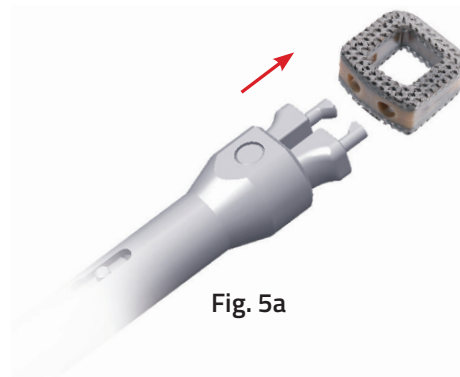
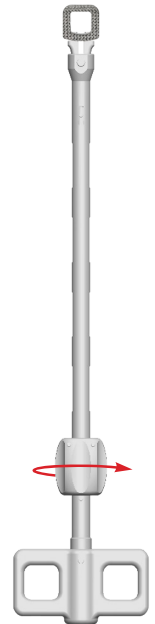

Fig. 5a
Fig. 5b
**(Fig. 5a)** Thread the knob clockwise to lock the inserter and secure the implant. **(Fig. 5b)** The implant window is intended to be filled with autograft and/or allograft comprised of cancellous and/or corticocancellous bone graft to help promote fusion.
**(Fig. 5a)** Thread the knob clockwise to lock the inserter and secure the implant. **(Fig. 5b)** The implant window is intended to be filled with autograft and/or allograft bone graft to help promote fusion.